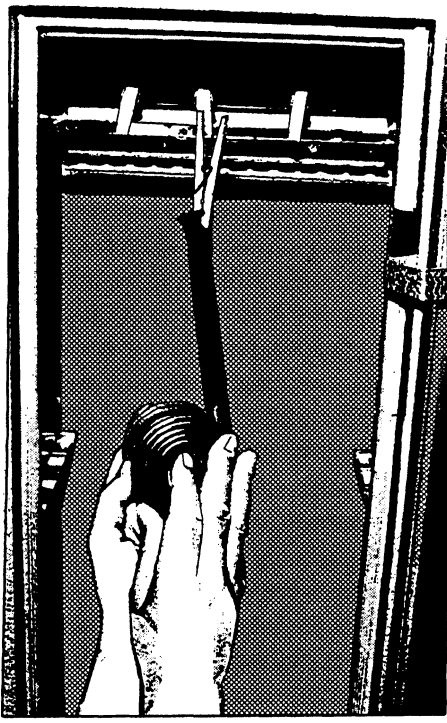

Figure 11-30.—Drying film in a drying cabinet
13. To dry the film, attach the end of the film to a clip in the drying cabinet (fig. 11-30). Let the film unwind from the reel as you slowly lower the reel.